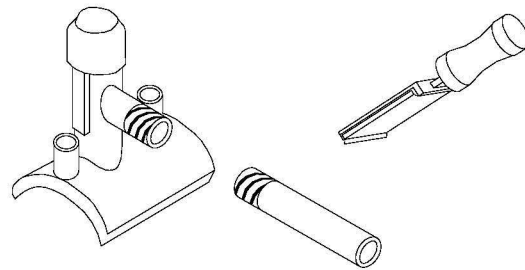

Figure A8- marking of top tee outlet
8. Mark spiral lines and scrape the outlet of the spigot and the service pipe for a distance of half the proposed coupler length plus 25mm. (Figure A8).